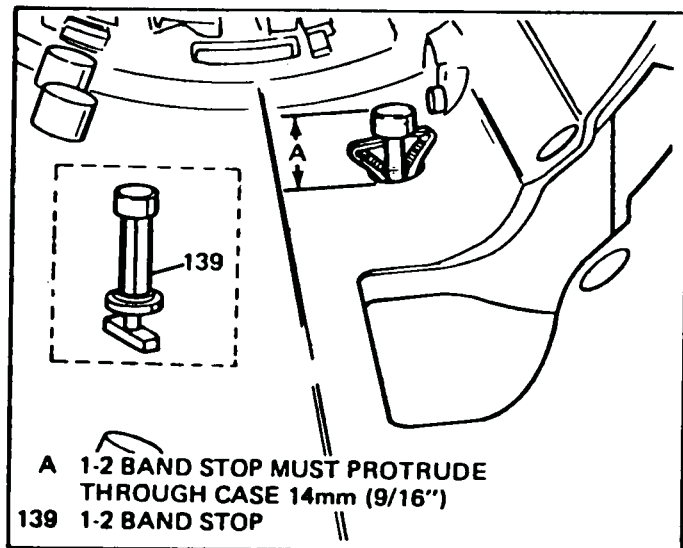

Figure 59
- * 1-2 band stop for damage. It must also protrude 9/16" thru the case. (See Figure 59).